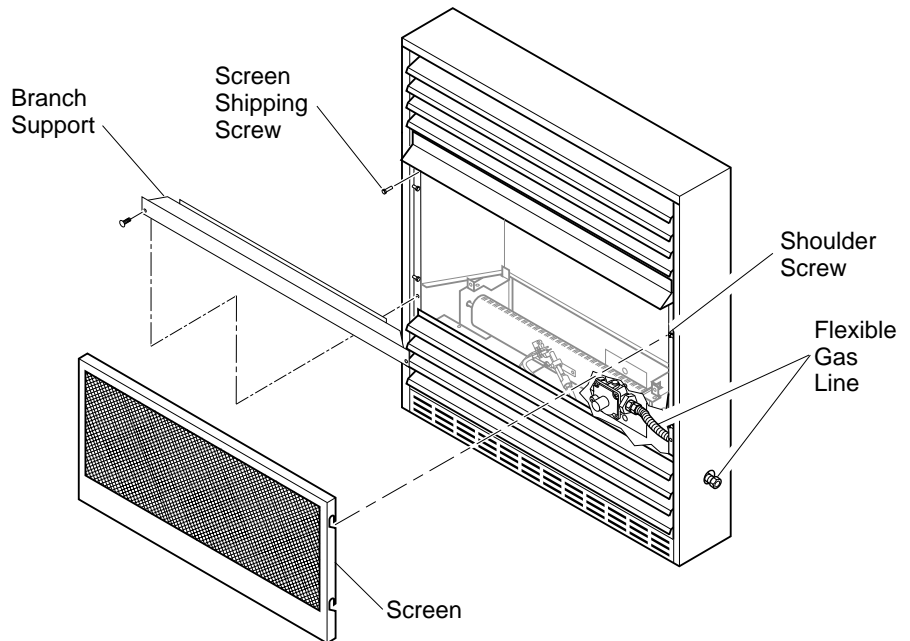

Figure 24 - Removing Branch Support From Fireplace
2. Remove screws that attach branch support to fireplace (see Figure 24). Carefully lift up branch support and remove from fireplace (see Figure 24).
NOTICE: Most building codes do not permit concealed gas connections. A flexible gas line is provided to allow accessibility from the fireplace (see Figure 24). The flexible gas supply line connection to the manual shutoff valve should be accessible.